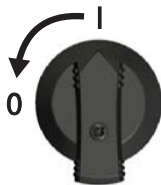

Figure 29
- Set the DC circuit breaker on the inverter to position 0 (Figure 29).